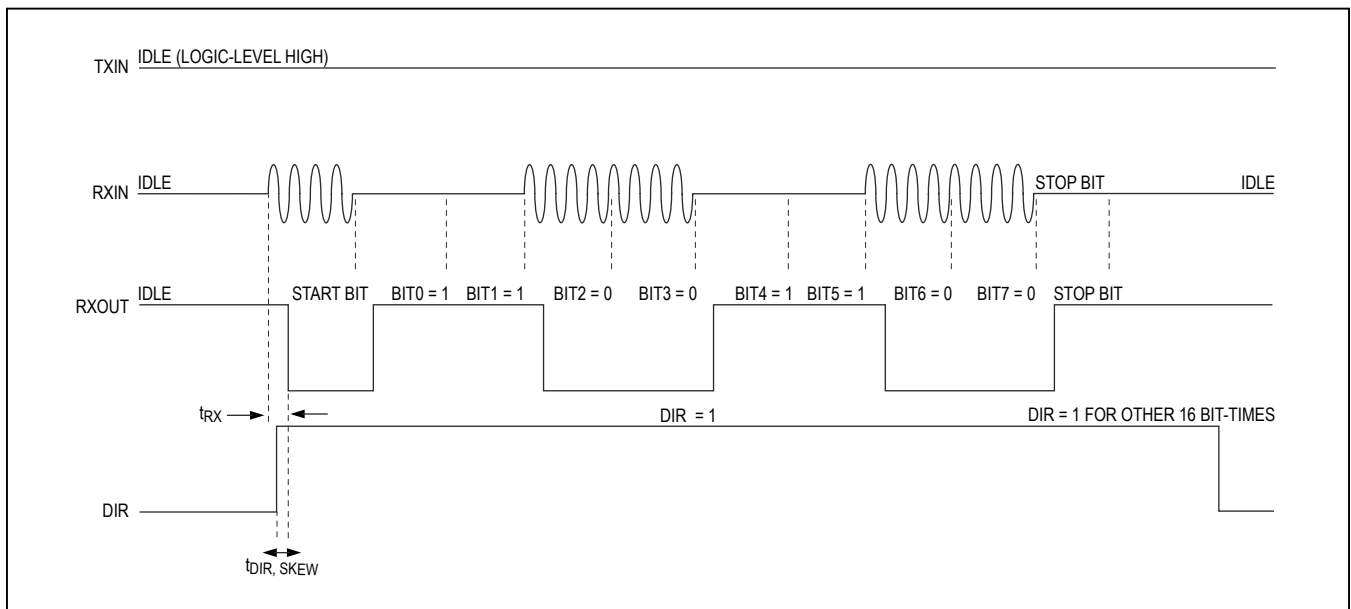

Figure 1. The MAX9947 on the Tower: Communication Flow is from the Base to the Tower
- Note 8:** See Figure 1.
Figure 1 and Figure 2 show the timing diagrams of the DIR functionality. When the data flows from RXIN to RXOUT, DIR remains high for 16 bit-times after the last logic-level low bit within the 8-bit protocol data. This is compliant with the AISG specification saying that the RS-485 transmitter stops driving the bus within 20 bit-times after the last stop bit is sent.